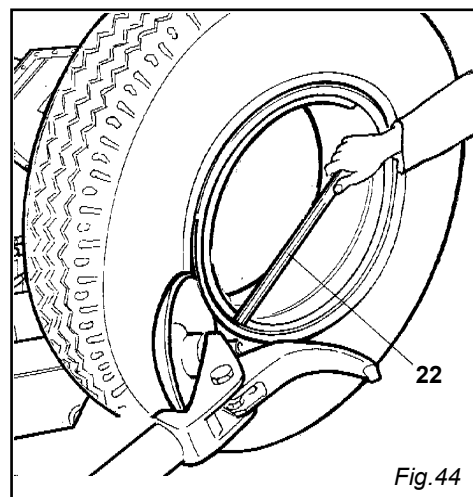

Fig. 44
3) Use the control levers (3) (4) to position the tire so that the bead loosening disk touches up against the outside edge of the split-ring.
5) Repeat this operation but this time move the disk against the split-ring (See Fig. 44) until the locking ring is released. This ring can be removed with the special lever (22, fig. 44) or with the help of the bead disk.